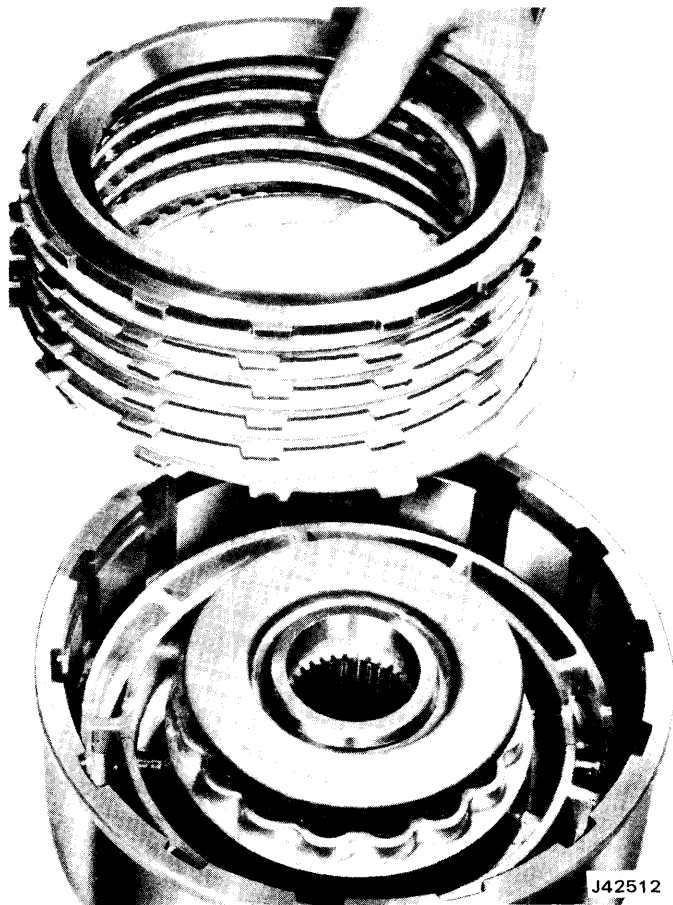

Fig. 7-88 Installing Clutch Plates in Direct Clutch Housing
(9) Install waved steel and composition-faced clutch plates. Start with waved steel plate and alternately install remaining composition-faced and flat steel plates (fig. 7-88). Refer to specifications for plate useage.